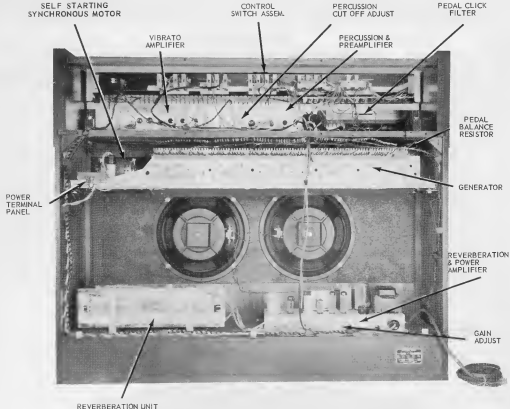

Figure 1-2. L-100 Console, Rear View
- 1-3. **MOTOR AND POWER SWITCH.** — The tone generator assembly, in which all tones of the organ originate, is driven at constant speed by a self starting synchronous motor, operating at 1800 RPM, located at the left side (rear view) of the console (Figure 1-2). (In 50 cycle organs, the generator speed is 1500 RPM).